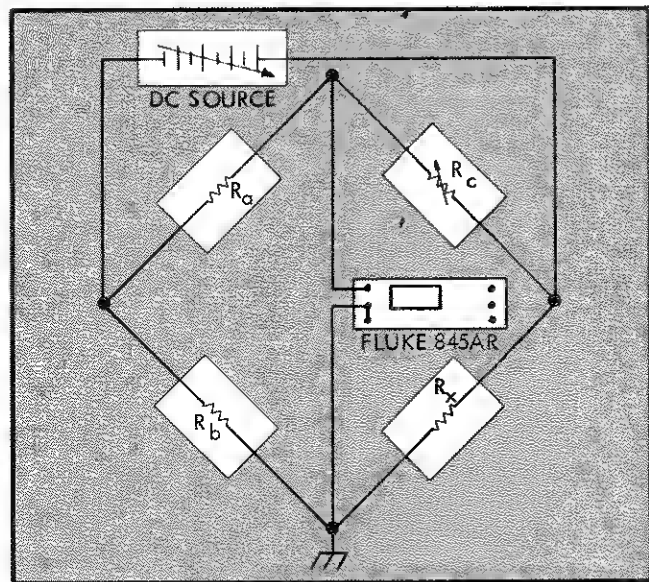

Figure 2-2. BRIDGE DETECTOR - FLOATING SUPPLY
various types of null detector configurations are illustrated by Figure 2-2 through 2-4. To operate the Model 845AR as a Null Detector, perform the preliminary operations according to paragraph 2-5 and proceed as follows:
- Select the desired equipment application as illustrated by Figure 2-2 through 2-4 and make the appropriate equipment connections.